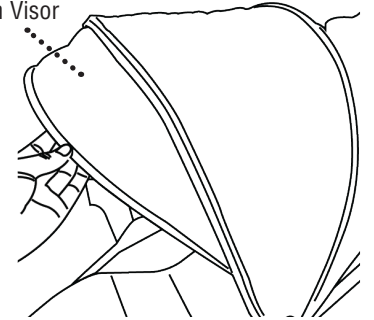

Fig. 4B
- To open the sun visor: Grab front edge of the sun visor under canopy and rotate forward until fully extended. (Fig. 4B)